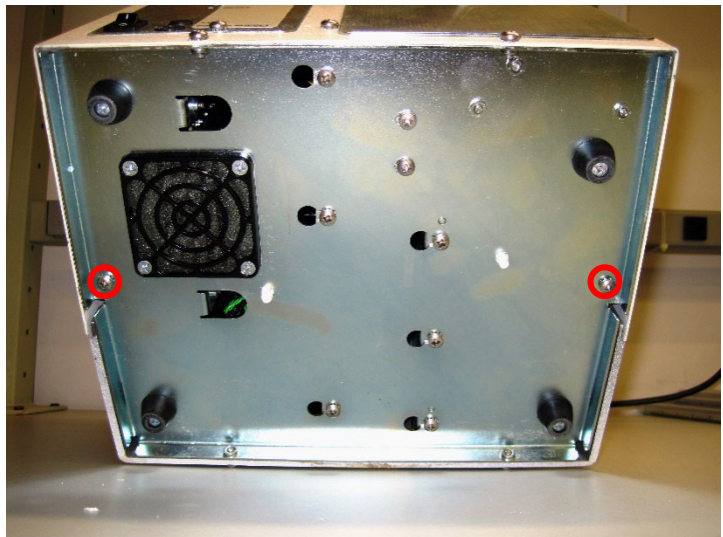

Figure 2
- 2.3. Remove the back enclosure by unscrewing the Phillips screws indicated in Figure 2.